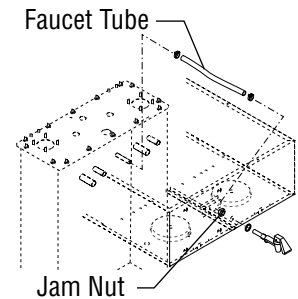

FIG 4
6. Remove the existing water faucet tube and clamps from the brewer and discard. (FIG. 4)
7. While holding the faucet body on the outside of the brewer, loosen and remove the jam nut from the inside of the brewer. (FIG. 4)
8. Remove the faucet from the brewer. (FIG. 4)